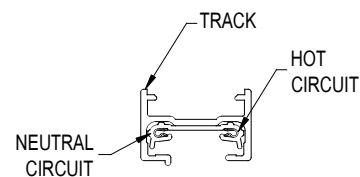

FIG. 4
A. ADAPTER: (BASIC TRACK), FIG.4